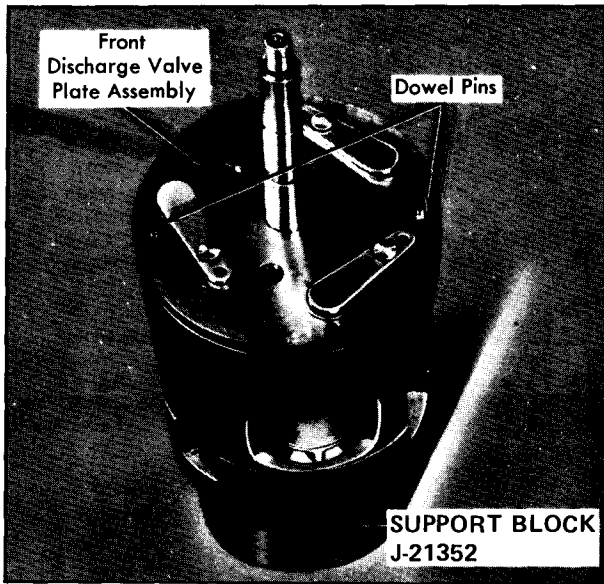

Figure 98—Installing Front Discharge Valve Plate
5. Install front discharge valve plate assembly, aligning holes with dowel pins and proper openings in front suction reed plate (figure 98).